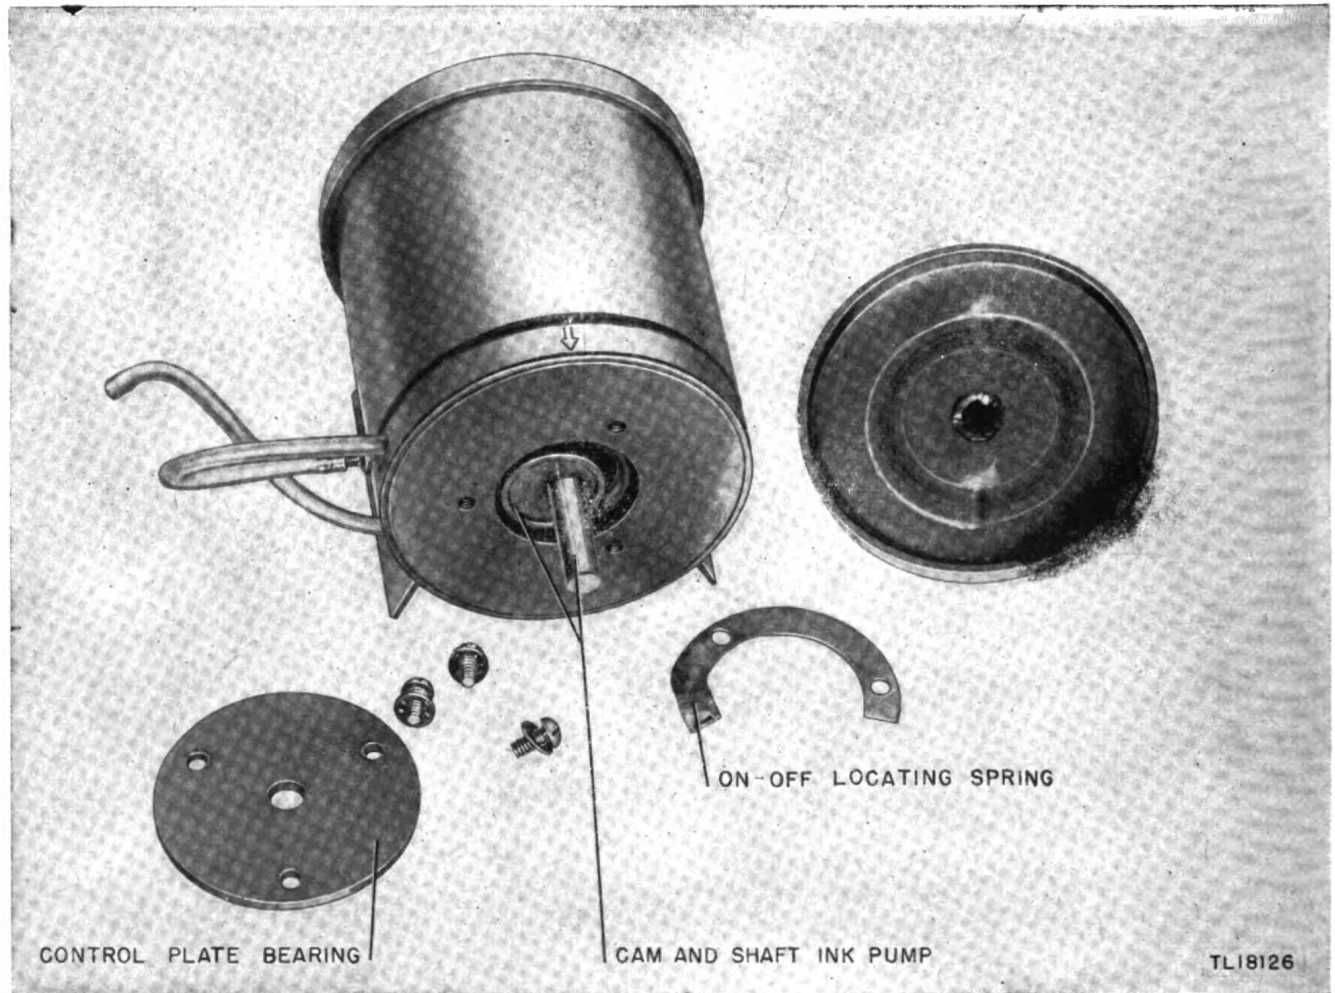

Figure 9. Disassembly of ink pump.
(f) Using an Allen wrench, release setscrew in knob of manual pump at bottom of cup. This will allow removal of knob and dial. Remove three screws, locating spring (6), and plate (4), exposing pump cam. (See fig. 9.)